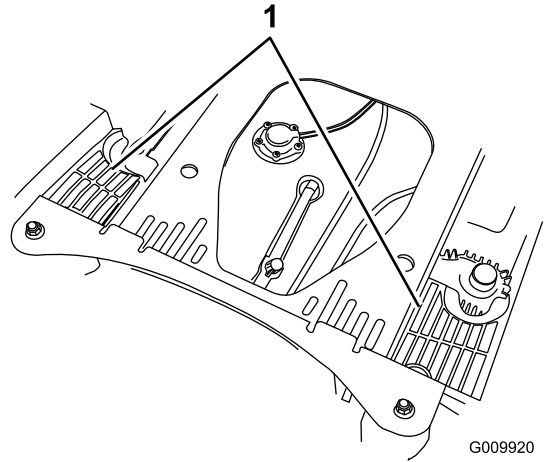

**Figure 71**
Before each use remove any build-up of grass, dirt or other debris from the engine screen. This will help insure adequate cooling and correct engine speed and will reduce the possibility of overheating and mechanical damage to the engine (Figure 71).
- Remove the air intake screen, recoil starter and fan housing (Figure 71).
- Install air intake screen, recoil starter and fan housing (Figure 71).